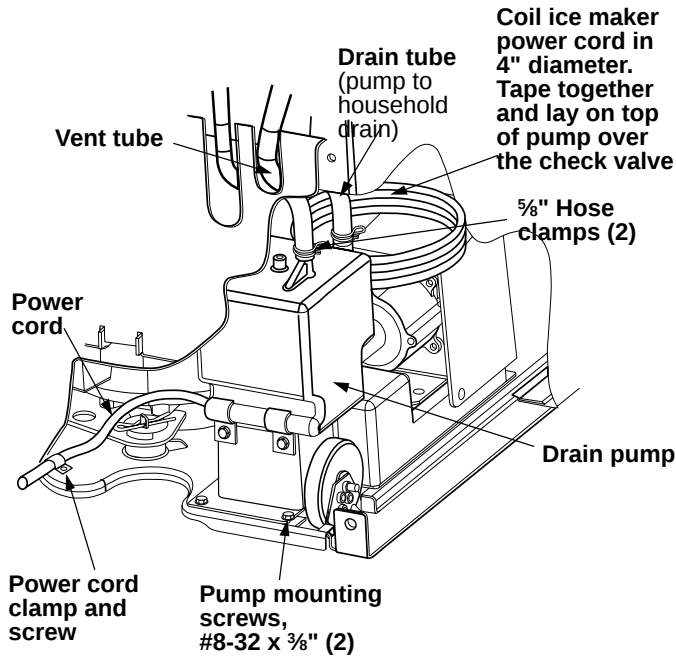

Figure 2
7. Coil power cord of ice maker into a 4" diameter coil. Wrap electrical tape around the power cord in several places to keep the cord in a coil. Lay the coiled power cord on top of the pump over the check valve and plug in the receptacle of the drain pump. See Figure 2.
8. Attach $\frac{3}{8}$ " ID x 10' drain tube to pump check valve outlet using $\frac{5}{8}$ " hose clamp. See Figure 2. Use wire tie as a relief, secure the household drain tube to heat exchanger.
11. Line up the two (2) screw holes at the rear of pump. Use two (2) #8-32 x $\frac{3}{8}$ " screws supplied. See Figure 2.
12. Attach the drain pump power cord to ice maker unit base with clamp and ground screw used to attach ice maker power cord from step 6. See Figure 2.